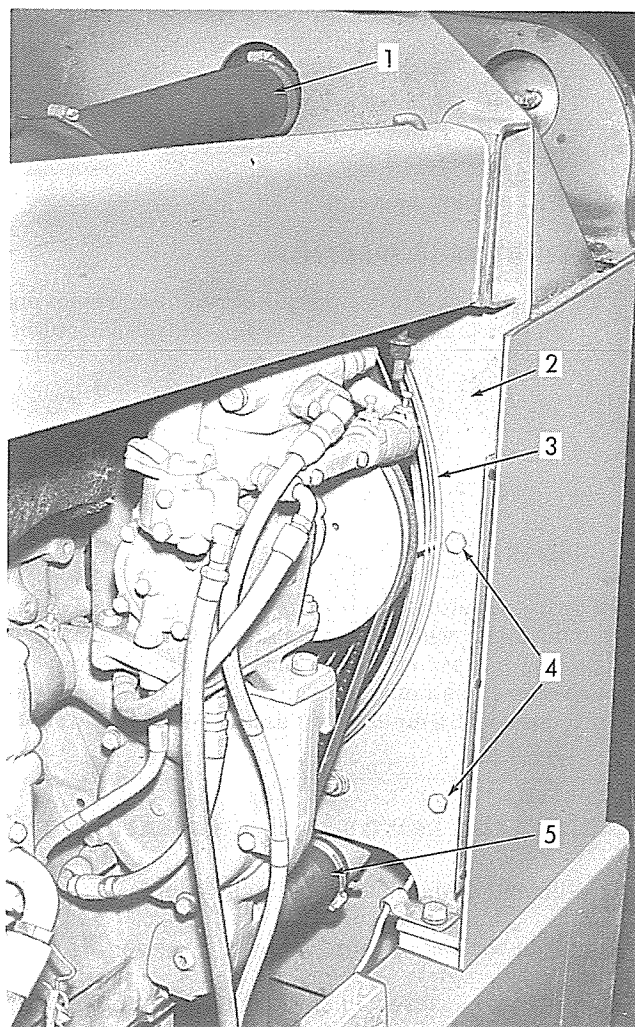

Fig. 3—Typical Radiator Mounting
On tractor loaders, and tractor dozers the radiator is bolted to the radiator support, Fig. 3, which is bolted to the loader main frame.
3. TRACTOR LOADERS AND TRACTOR DOZERS (Fig. 3)
- c. Disconnect radiator inlet (1) and outlet (5) hoses.
- d. Remove fan guard (3).
- e. Remove capscrews (4), nuts, plain washers, and rubber washers attaching radiator to radiator support (2).